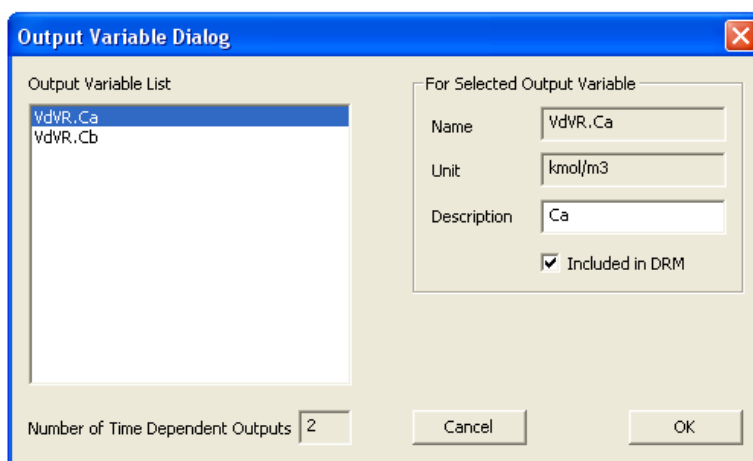

Figure 9: Output Variable Dialog Window
10. Configure the output variables by issuing the **Setup → Configure Output Variables...** command or clicking  on the toolbar. The “Output Variable Dialog” window as shown in Figure 9 displays.